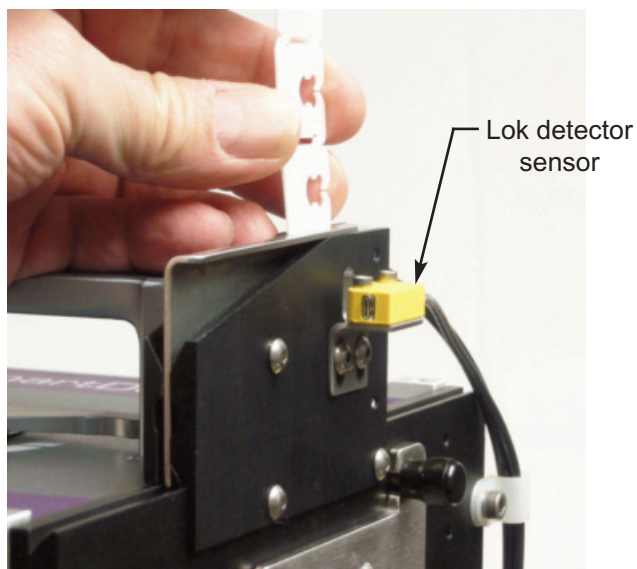

Figure 3.1
The lok detector sensor (Figure 3.1) monitors the lok strip and activates the alarm circuit if loks are not present. When loks are not present, the printer will not activate, but the closer will continue to operate. The system is reset automatically when closures are inserted in the lok track. The closure detection system is standard on the 883N SmartDate X60 thermal printer.
C. LOADING CLOSURES: Figure 3.1 - 3.4
2. Insert the end of the closure strip into the strip cleaner and slide it through the printer into the closer lok track until the pick is engaged between the 1st and 2nd closure (Figure 3.1).